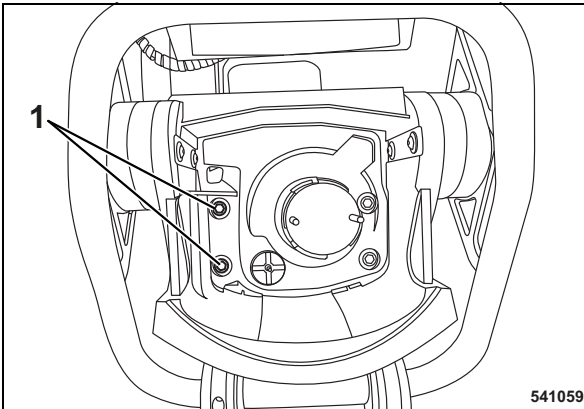

Fig. 57
- Tighten the screws (1) (Fig. 57) (right hand side) of the air filter housing hand-tight (max. tightening torque 50 Nm (37 ft.lbs.).